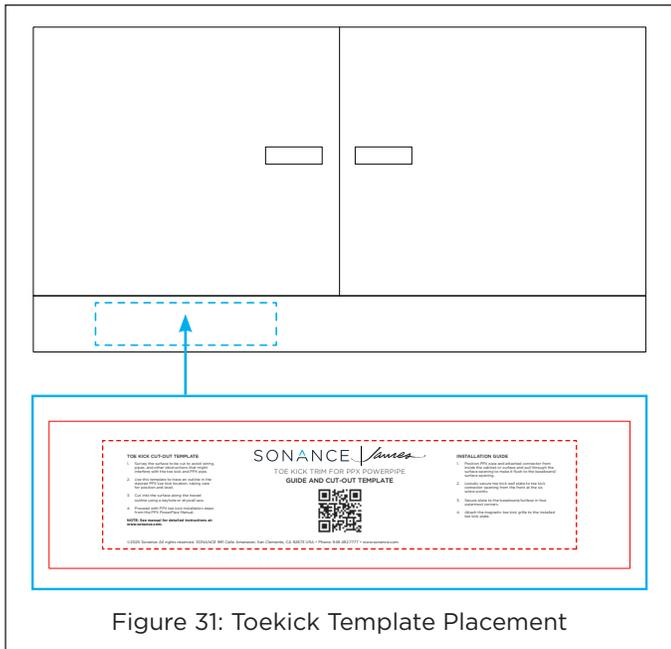

Figure 31: Toekick Template Placement
6. Mark the front of the cabinet base for the grille location. Use the toekick grille cutout template to trace and cut the grille opening in front base of the cabinet (see Figure 31).